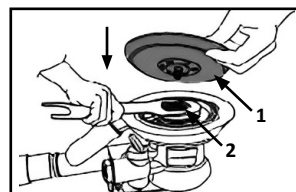

Fig. 8
3. Place the new sanding pad (1) over the nut (2). (Fig. 8)